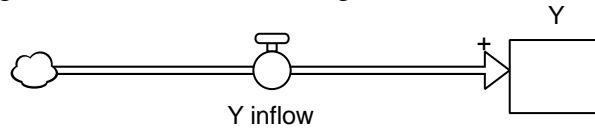

Figure 1: Uniform change – structure
- Place the following in the model window, Figure 1: